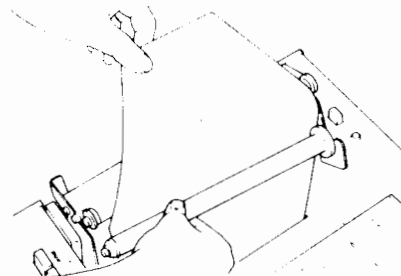

Figure 14
- 4) Pull out about 20cm of the recording paper. Set the paper shaft to the paper magazine as shown in Figure 14.